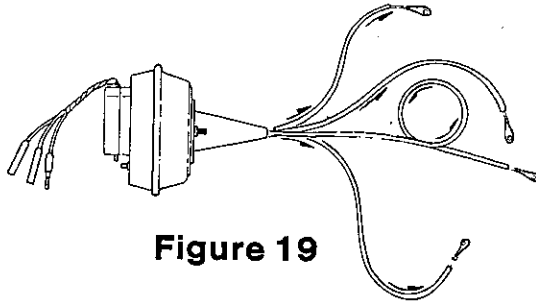

Figure 19
24. Route servo cable to firewall in a smooth manner. **FIGURE 19** illustrates the correct routing configurations. **CAUTION:** Improperly routed servo cable could cause binding or erratic performance. **NOTE:** On some vehicle installations, the servo cable will have some excess length after the system is properly installed. Most excess length can be adjusted out by looping or spiraling cable in a well-curved manner as shown in **FIGURE 19**.